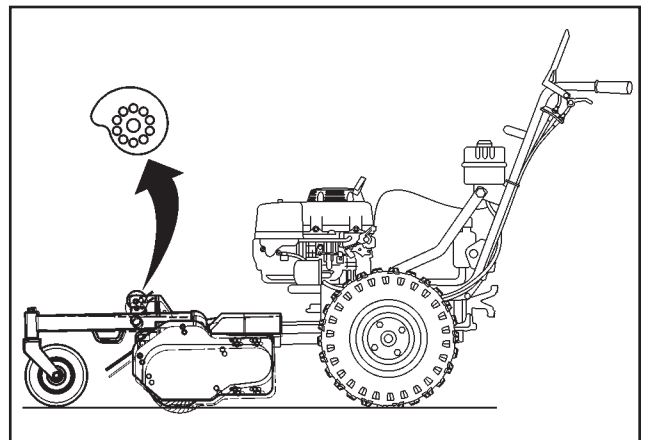

FIGURE 25 Depth Cam Adjustment
3. Remove the Lock Pin and rotate the Depth Adjustment Cam to the desired depth (See Figure 25).